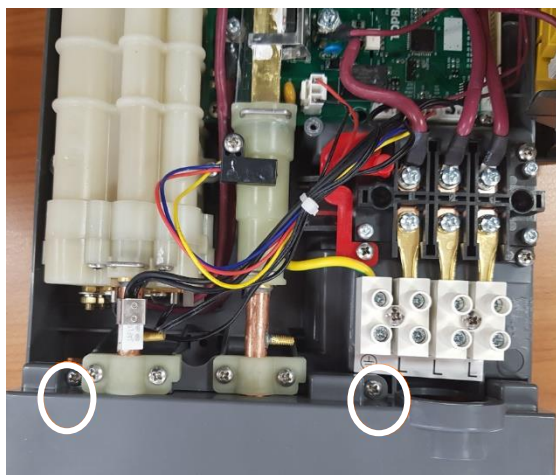

Figure 2: Removing Grey Cover
- c) Remove the grey cover at the bottom of the heater by removing two screws as marked in Figure 2 on page 20 to access the inlet/outlet and electrical connections.